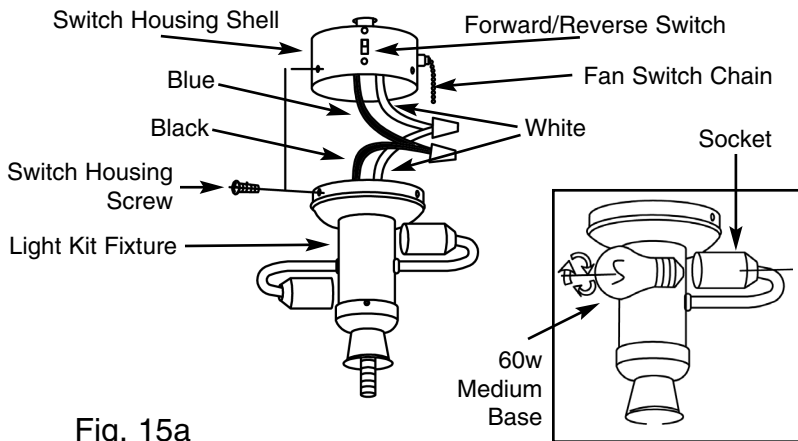

Fig. 15a
Remove switch housing screws. Press light kit fixture up into switch housing shell, aligning screw holes. Insert (3) screws and tighten firmly (see figure 15a).